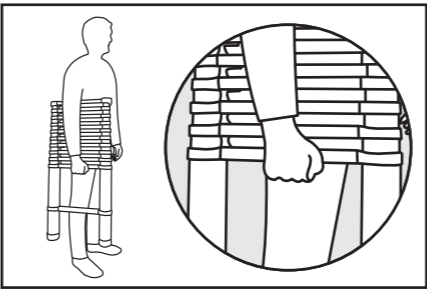

figure 1
- 1.2 **ALWAYS** transport the ladder fully closed and hand carry under arm gripping the underside of the ladder lock release housing on the underside of rung 2 (see figure 1).
- 4.2 Transport the ladder fully closed and hand carry under arm. With one hand grasp the underside of the ladder lock release housing on the underside of rung 2 (see figure 1), support / carry the product with your arm straight and steady the ladder with your other hand.